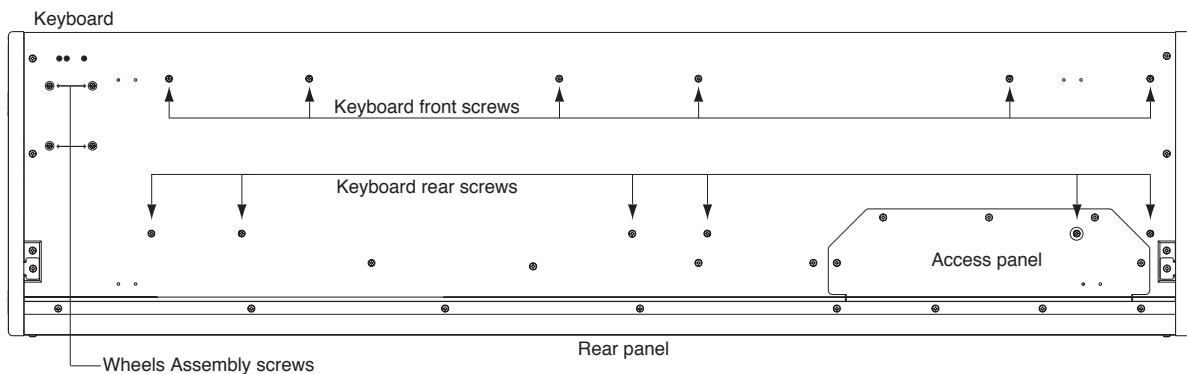

Figure 3-15 PC3x keyboard bottom
1. Refer to Figure 3-15 on page 3-20. Slide the left side of the unit forward off of your work surface so that you can access the four screws and washers securing the assembly to the bottom enclosure. Remove the four screws and washers.
1. The keyboard is secured to the bottom enclosure using twelve screws. Refer to Figure 3-15 for the position of the screws. Arrows identify the locations of the twelve screws.